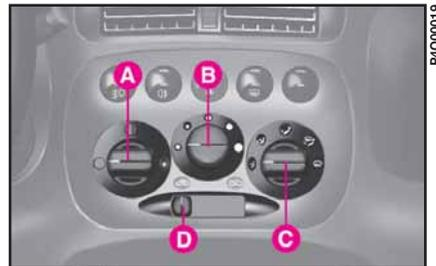

fig. 34
## CONTROLS fig. 34
1) Air temperature knob **A**-fig. 34: pointer in the red sector.
- 1) Air temperature knob **A**-**fig. 34**: pointer in the red section.
- 2) Air temperature knob **A**-fig. 34: pointer in the blue sector.